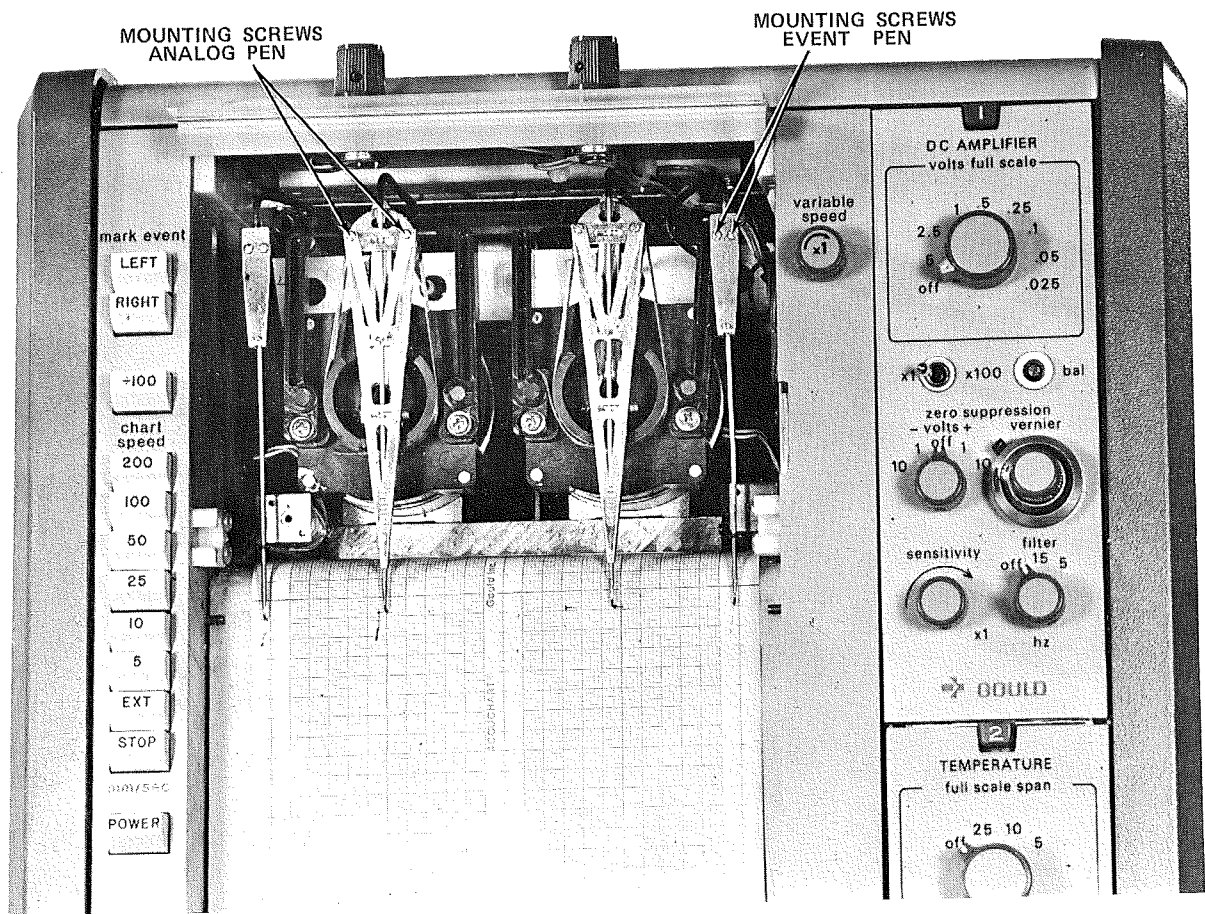

FIGURE 5-6 PEN REPLACEMENT
6. Loosen two screws (do not remove) which secure pen to drive arm and carefully slide pen off in downward motion. (Figure 5-6).
1. Loosen two screws (do not remove) which secure pen to bracket assembly and carefully slide pen off in downward motion (Figure 5-6).